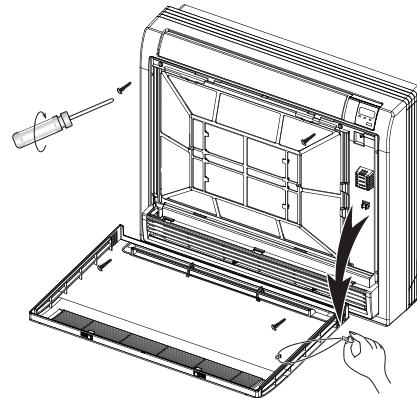

Fig. 12 — Remove the screws
2. Remove the front (see Figure 12).